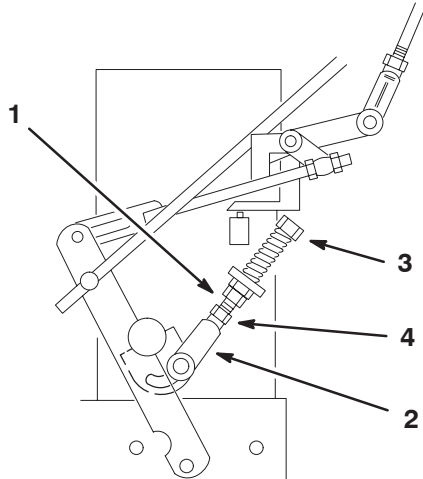

Figure 49
8. If the wheel turns while holding the drive lever in neutral, the neutral control linkages need to be adjusted (Fig. 49). If wheel stops then go to step 12.
9. Loosen the nut against the neutral control linkage yoke (Fig. 49).
10. Adjust the neutral control linkage until the respective drive wheel stops while the drive lever is pulled against the neutral spring (neutral position) (Fig. 49).
11. Turn the adjusting bolt approximately 1/4 turn clockwise if the wheel is turning in reverse or turn the bolt approximately 1/4 turn counter-clockwise if the wheel is turning forward (Fig. 49).